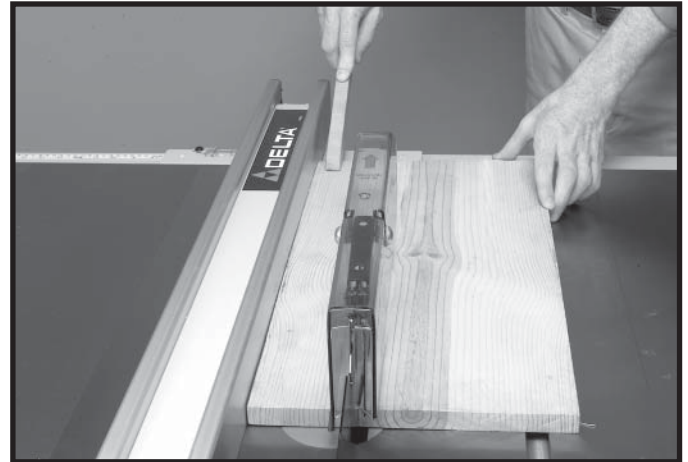

Fig. S9
3. If the size or shape of the workpiece would cause your hands to be within six inches of the saw blade, use a push stick to complete the cut, as shown in Fig. S9. The push stick can easily be made from scrap material as explained in the section "CONSTRUCTING A PUSH STICK."